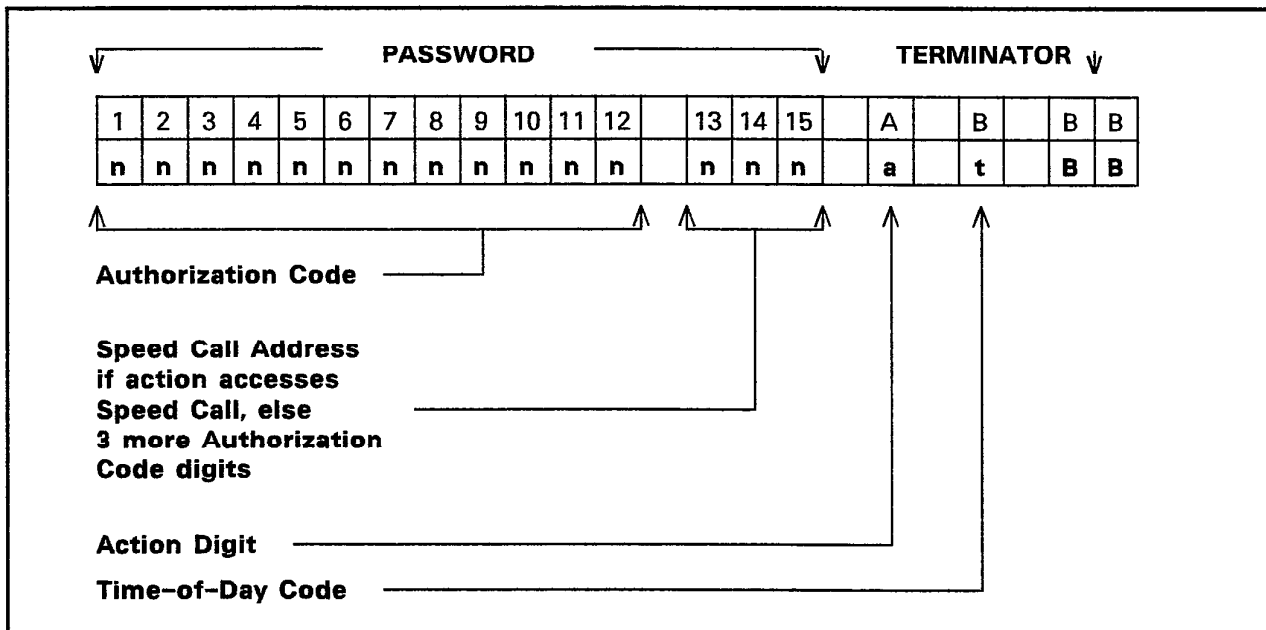

Figure 7-4, Password Format
**7.78** Passwords can range from 2 to 15 digits in length, depending upon the desired usage. Refer to Figure 7-4 for an illustration of the password format. Password programming is accomplished by entering a password string in the 821 through 835 Search Tables.
**7.82** Figure 7-4 illustrates the password format showing the actual password (authorization code), speed call address (if used), action digit, time-of-day code, and terminator. Password data entry must always be terminated by the 'BB' code.